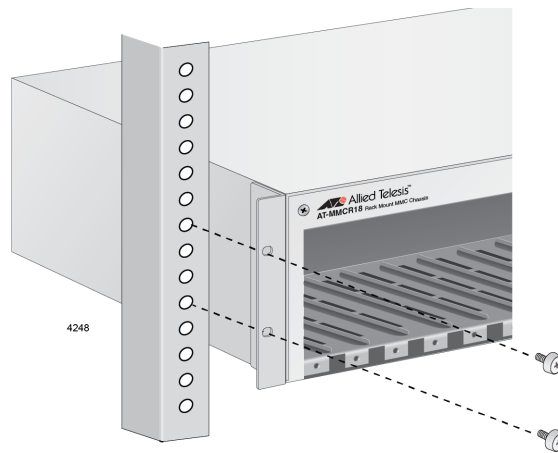

Figure 14. Installing the Chassis in a Rack
3. Mount the chassis on the rack with two screws on each side, as illustrated in Figure 14 on page 29.